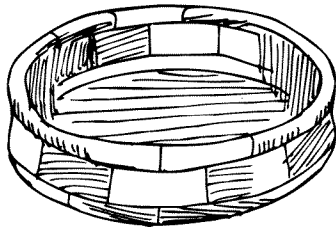

Figure 70
- The bowl illustrated in Figure 70 requires 12 segment pieces for the sides. Bowls can also be worked with 6 or 8 pieces.